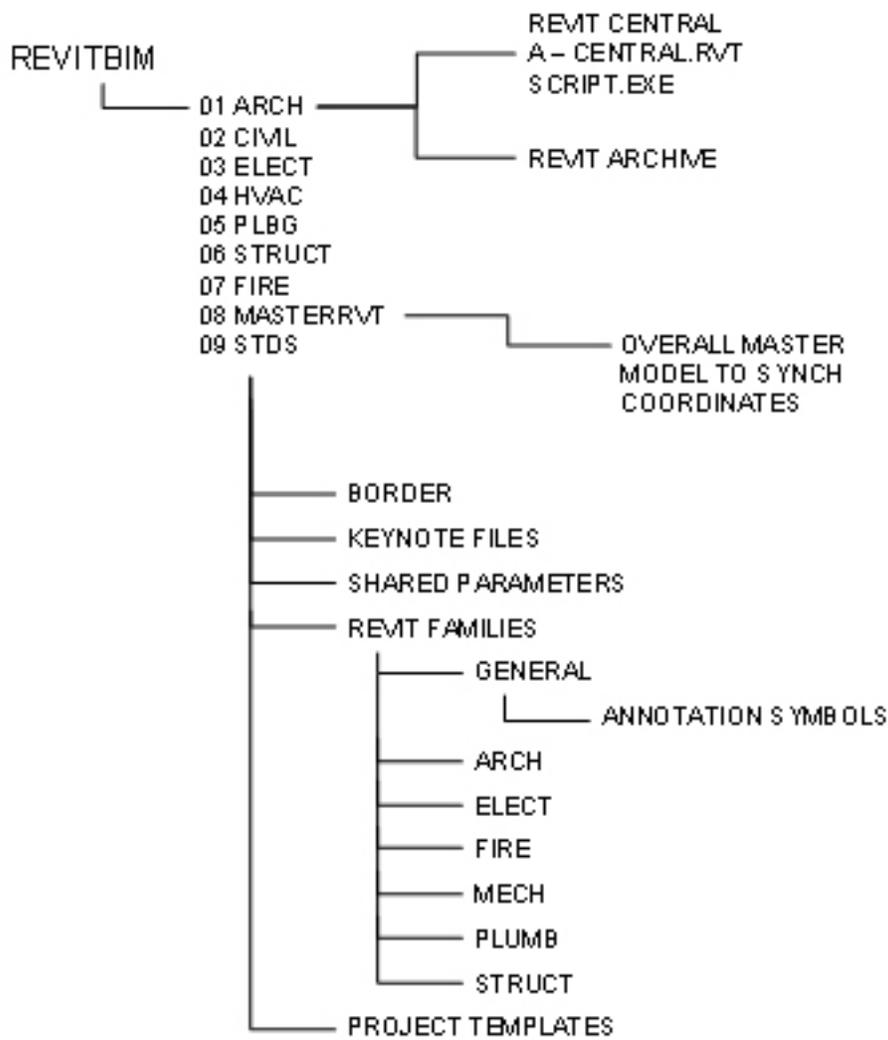

Figure 22 – Duplication Example
- A/E is responsible for establishing a clear File Directory Structure (*Refer to Figure 22 – File Directory Structure Example*).